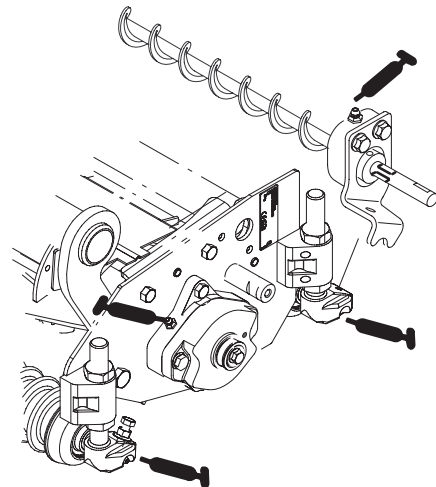

Figure 16
36. Lubricate grease fittings on roller brush bearing housings and remainder of cutting unit with No. 2 General Purpose Lithium Base Grease (Fig. 16).